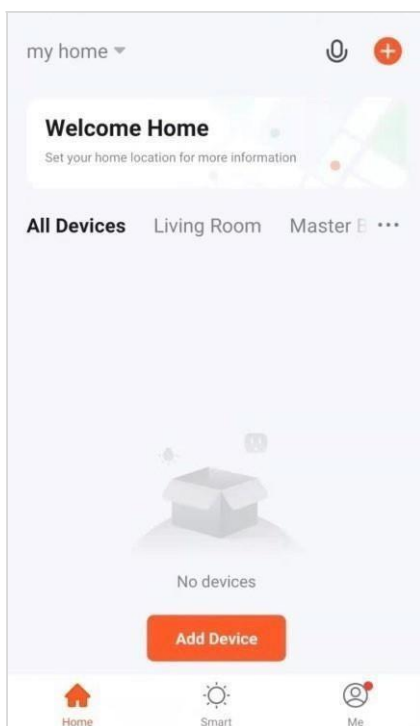
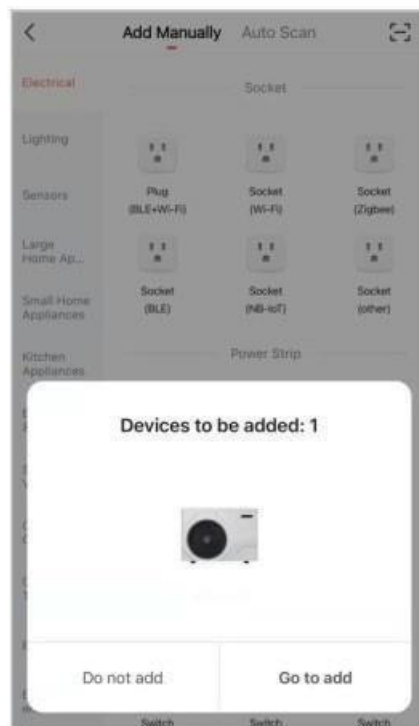
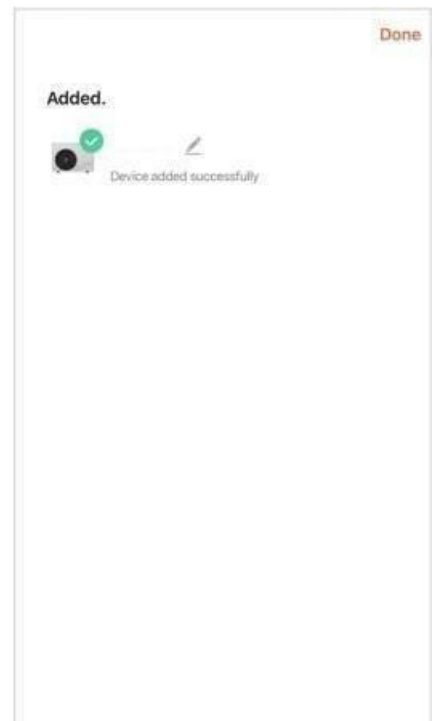

Fig.10.2
Fig.10.3
Fig.10.4
1.4 Open Sime APP, then click **Add device** (Fig10.2) to scan for appliance automatically. Press **Go to add** (Fig10.3) after find the appliance. And then press **Done** (Fig10.4) to complete the connection.